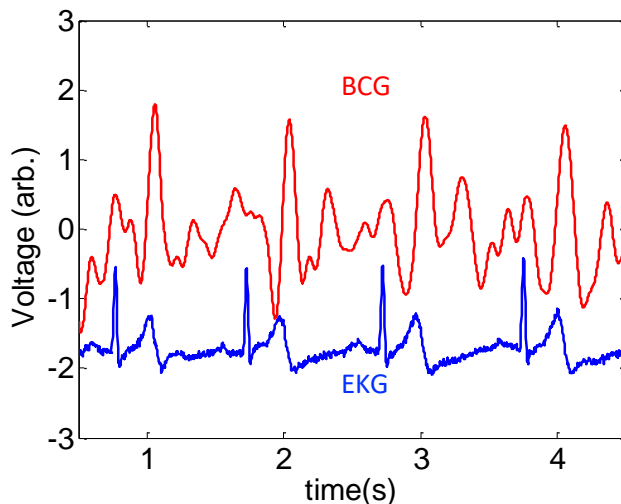

Figure 1: Comparison of EKG (blue) and BCG (red) signal. Note the regular correlation between the second hump of the EKG signal and the impulse from the BCG.
2. A good clean BCG trace, similar to what is shown in Figure 1.
Such an instrument is known as a ballistocardiograph (BCG). Since the measurement is so sensitive, we can do a simultaneous EKG which will help us identify and correlate the two signals, shown below in Figure 1.